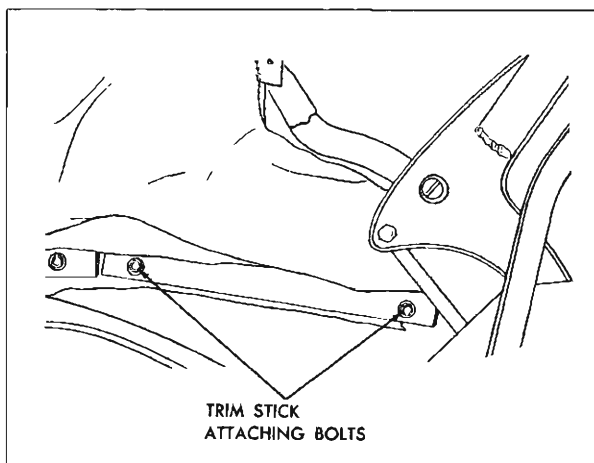

Fig. 21-32 Rear Quarter Trim Stick
8. At each rear quarter area remove attaching bolts securing rear quarter trim stick assembly to rear quarter inner pannel (Fig. 21-32).